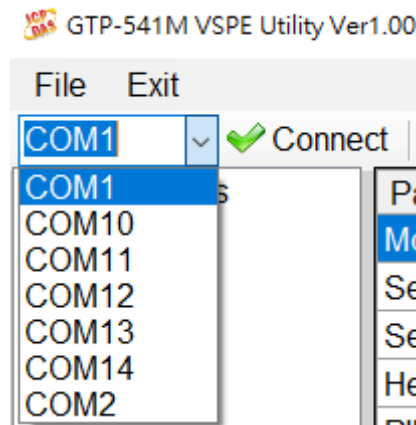

Figure 10.2.1
1. Select COM Port, as shown in Figure 10.2.1.